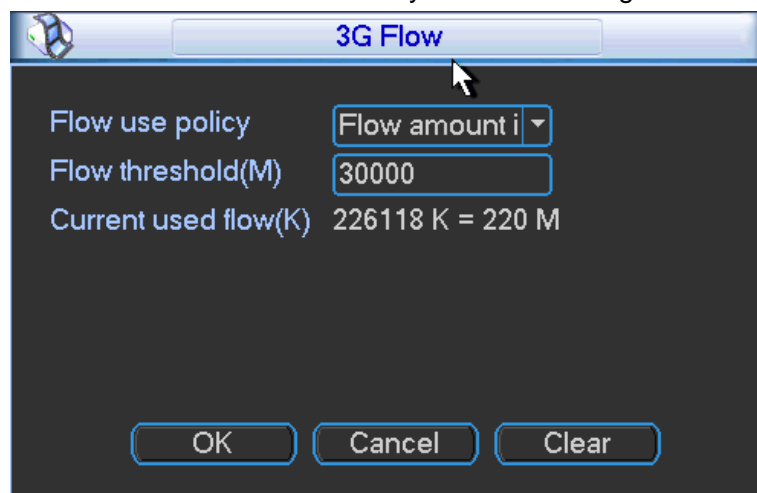

Figure 4-25
- 3G flow control: It is to show the 3G flow you used. See Figure 4-25.